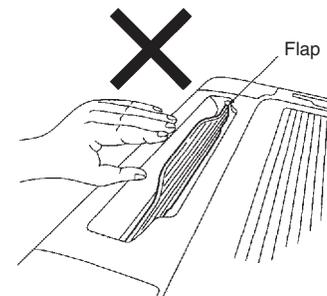

**Fig. 3-37**
- (1) Connect power to the power terminal board (R, S terminals) inside the electrical component box.
- (2) Slowly pour approx. 0.13 gal of water into the drain pan to check drainage. (Fig. 3-37)
- (3) Short the check pin (CHK) on the indoor control board and operate the drain pump. Check the water flow through the transparent drain pipe and see if there is any leakage.
- (4) When the check of drainage is complete, open the check pin (CHK) and remount the tube cover.